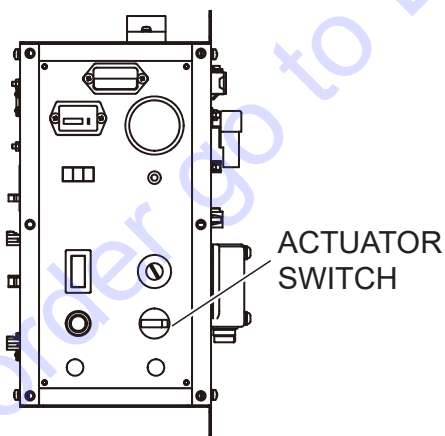

Figure 10. Actuator Switch
3. Turn the actuator switch on the control panel (Figure 10) counterclockwise to tilt the lamp stand up.